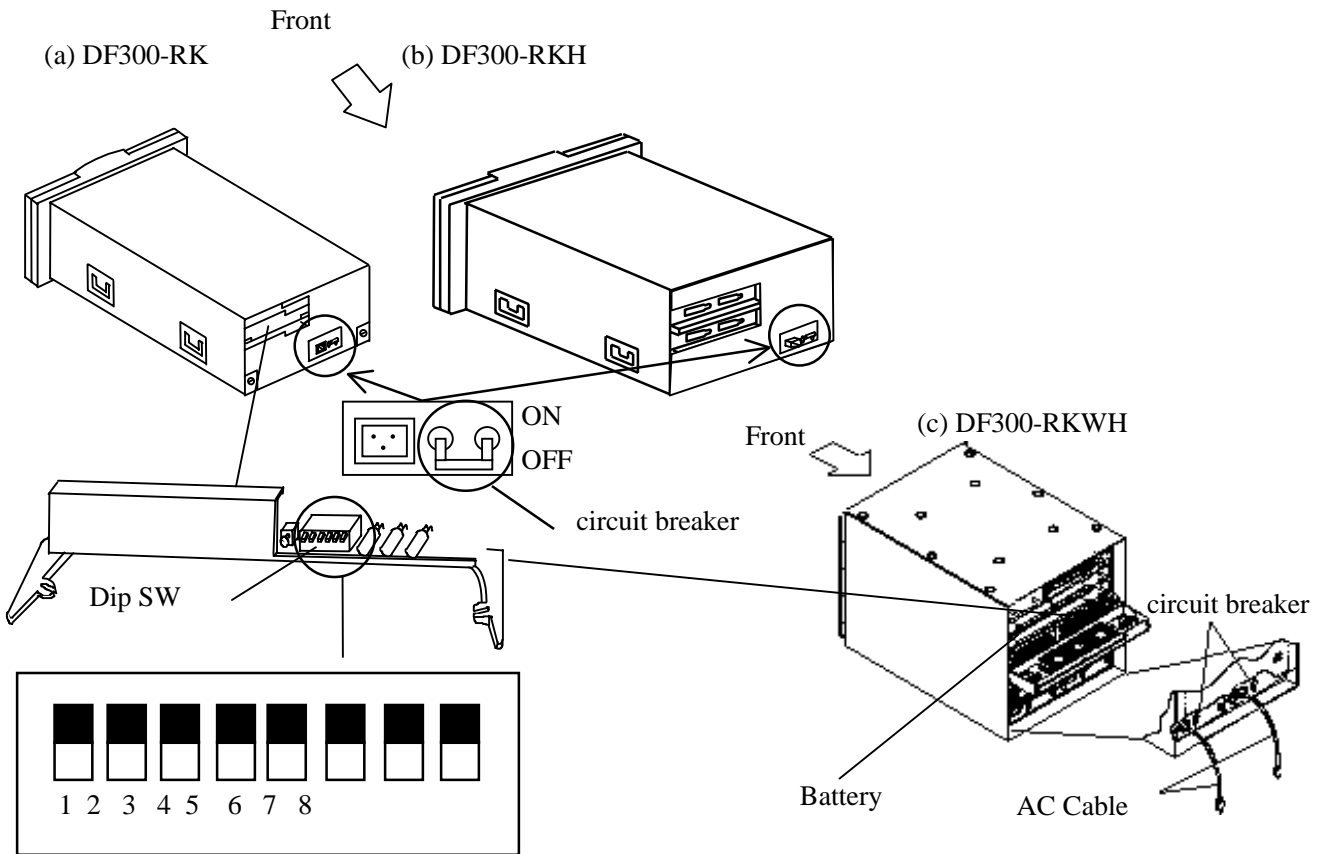

Figure 4.11.1 Place of the circuit breaker and Dip SW
1. Make sure that the circuit breaker is "O (OFF)". (See Figure 4.11.1)
3. After removing the front cover (See Subsection 4.2) , open the front panel (See Subsection 4.4) and make sure that the battery power switch is turned to "ON". Then turn on the circuit-breaker. (See Figure 4.11.1, 4.11.2)